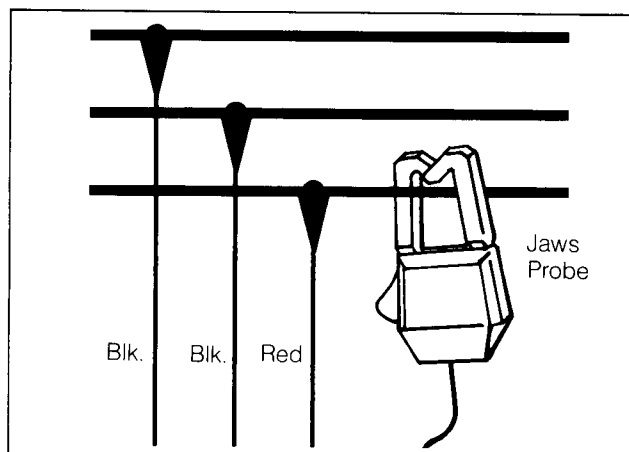

fig. 3
1. Connect the three phase voltage probe (two black, one red cables) to jack (2) on instrument front panel.
2. Connect the dual current probe to jack (1) on front panel.
4. Attach the voltage probe to each of the three lines with the Red wire connected to the same line the current jaw is on. See fig. 3. A volts low indication shows a bad connection or line voltage below 70 volts.